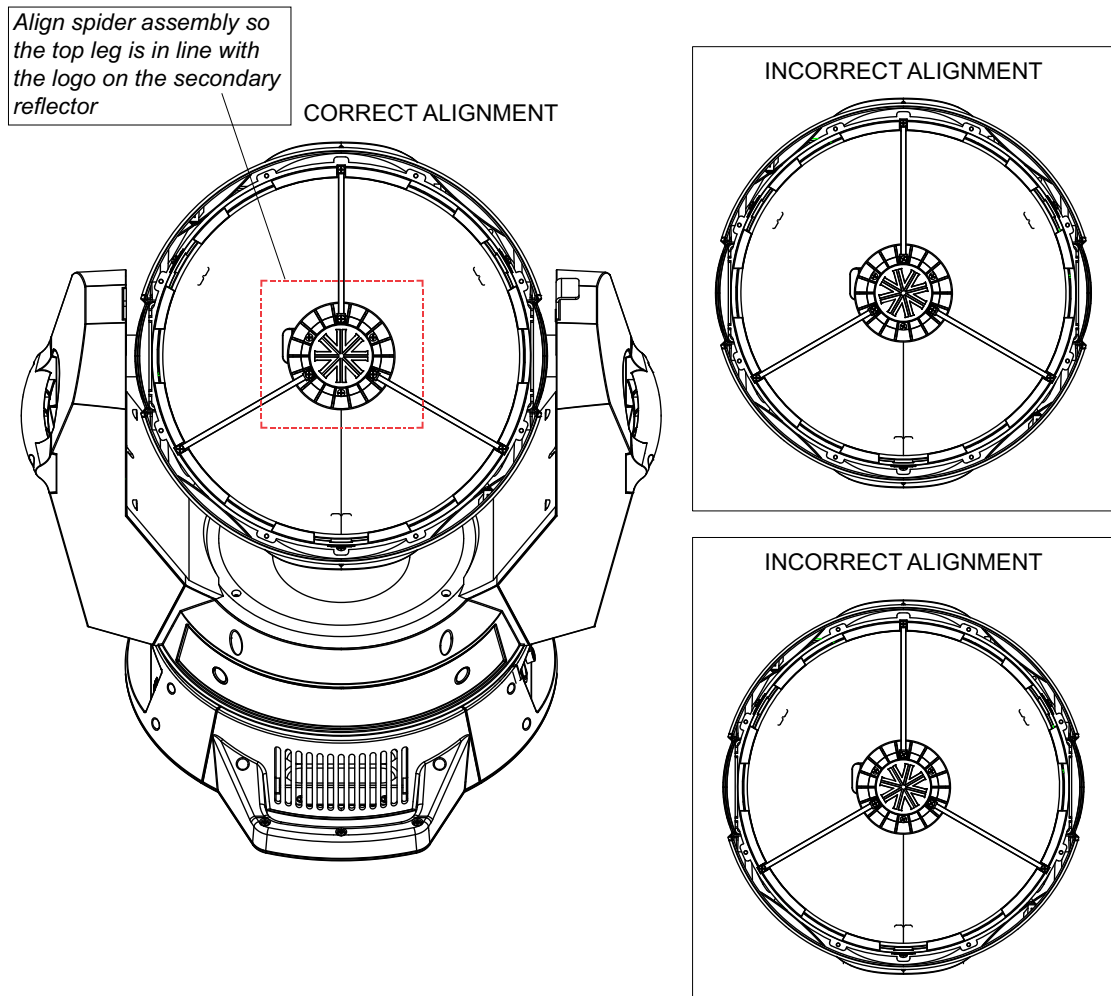

Figure A-8: Spider Alignment
- Step 1. Install the spider assembly and secondary reflector. One of the spider legs aligns with the V in the logo at the center of the secondary reflector. The leg must install in the slot centered between the yokes. See Figure A-8 for correct alignment.